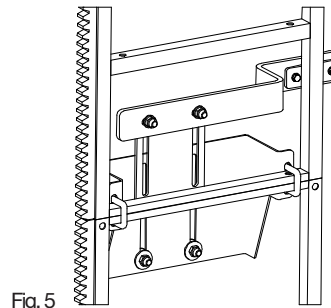

Fig. 5
4. Install the electric cable arm support (see Fig. 5 and installation drawing).